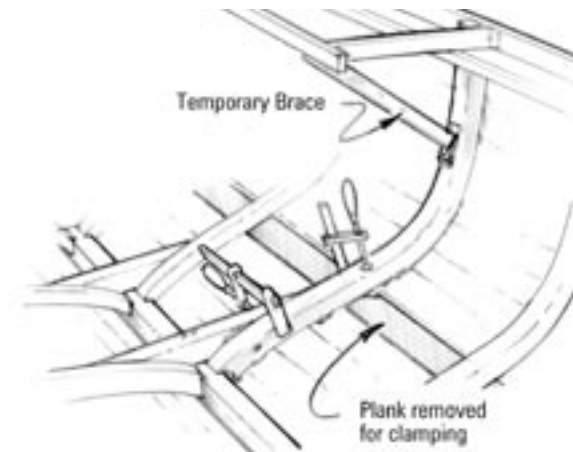

Figure 5-3 Install the new frame in the same position as the old frame. Braces or screws may be used to hold the frame until the epoxy cures.
5. Clamp the frame in position until the epoxy cures. If the fasteners of the old frame are to be reused, bond the fasteners with epoxy (*Figure 5-3*).